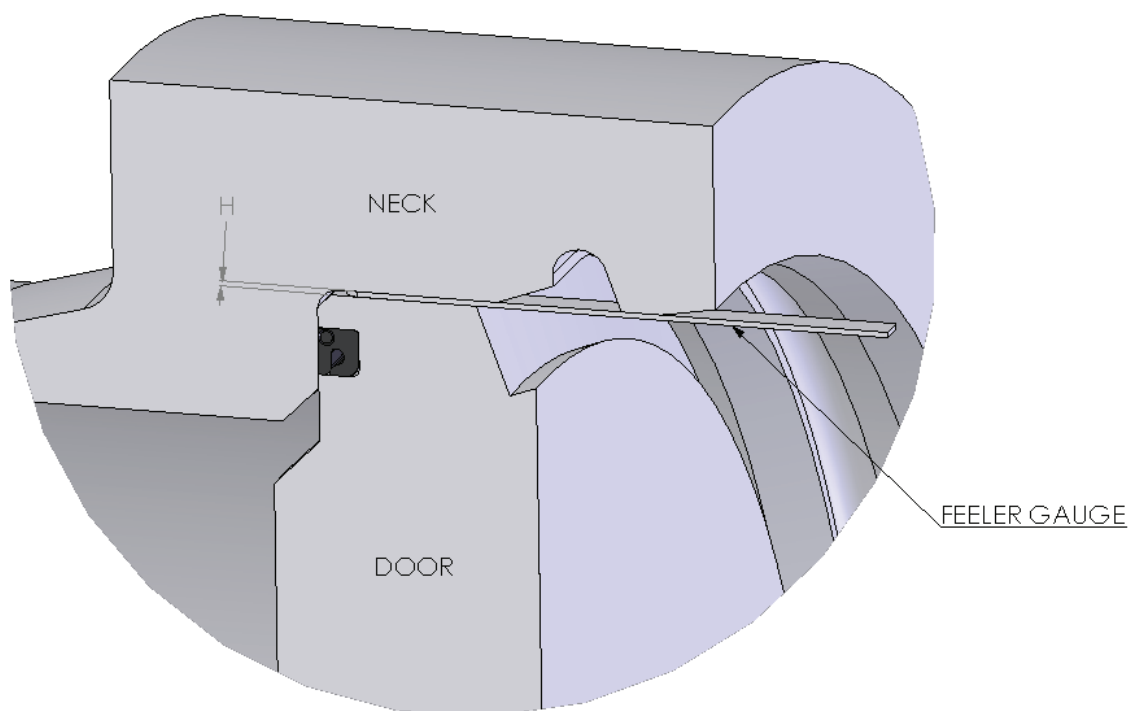

Fig 8.0 – Door Centralisation
- 3 Check the gap between the hub and door in 12 o'clock and 6 o'clock positions (Fig 8.0) using feeler gauges.